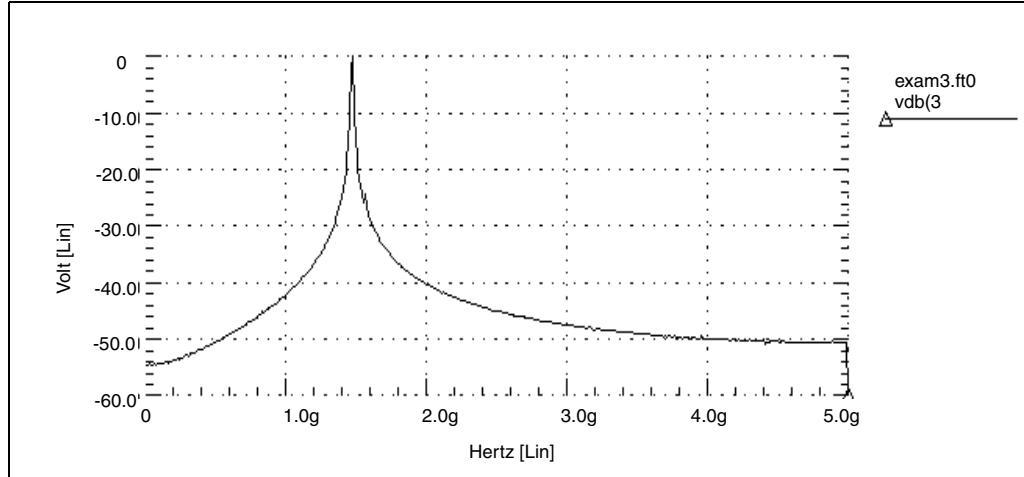
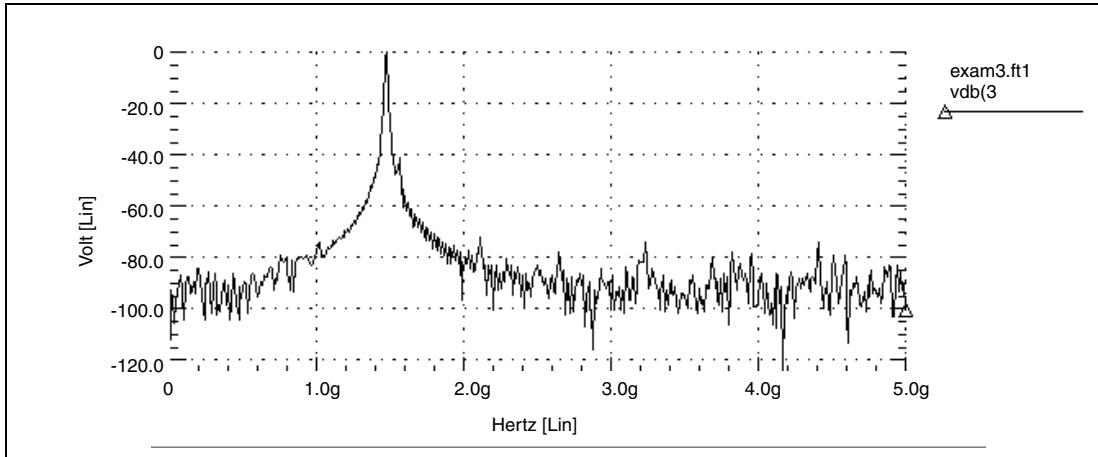
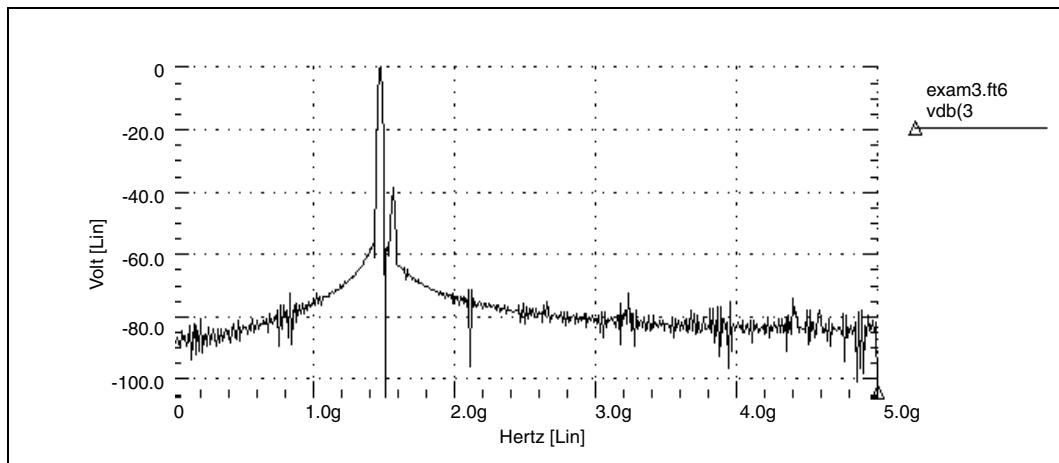
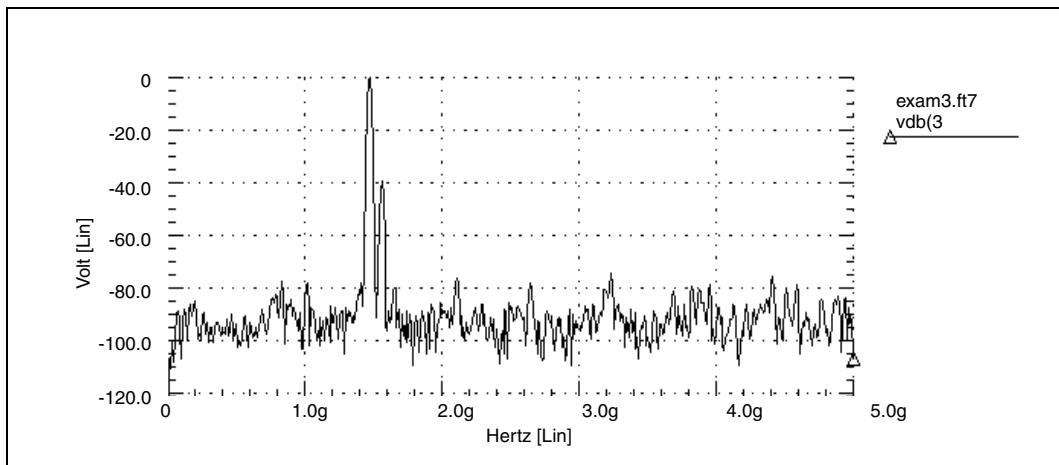

Figure 74 Mixer Output Spectrum, Rectangular Window
Figure 75 Mixer Output Spectrum, Bartlett Window
Figure 80 Mixer Output Spectrum, Gaussian Window
Figure 81 Mixer Output Spectrum, Kaiser-Bessel Window
Figure 74 shows the rectangular window. Compare this with the spectra of the output for all FFT window types, as shown in Figure 75 through Figure 81. Without windowing, HSPICE does not detect the weak signal because of spectral leakage.
- In the Bartlett window (Figure 75), the noise floor increases dramatically, compared to the rectangular window (from -55, to more than -90 dB).
- The final two windows (Figure 80 and Figure 81) use the `ALFA=3 . 0` parameter, which is the default value in HSPICE. These two windows also produce acceptable results, especially the Kaiser-Bessel window, which sharply separates the two tones, and has a noise floor of almost -100-dB.